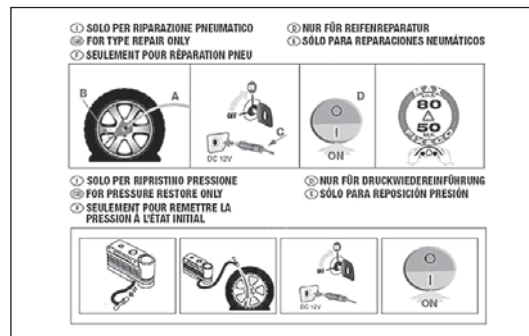

fig. 157
- instruction brochure (see fig. 157), to be used for prompt and proper use of the quick repair kit and then presented to the personnel charged with handling the treated tyre;